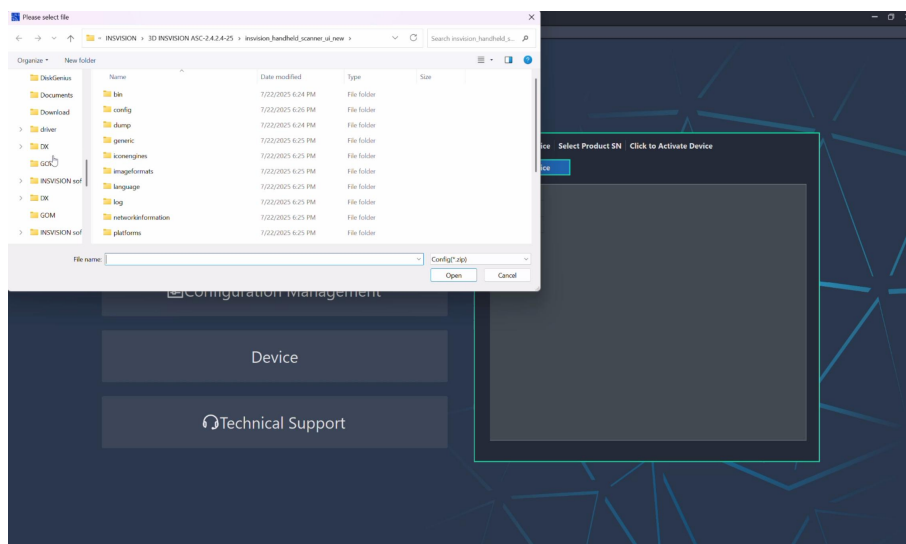

Figure 16
(2) Select the corresponding configuration compressed package on the USB drive and click "Open", as shown in Figure 16.